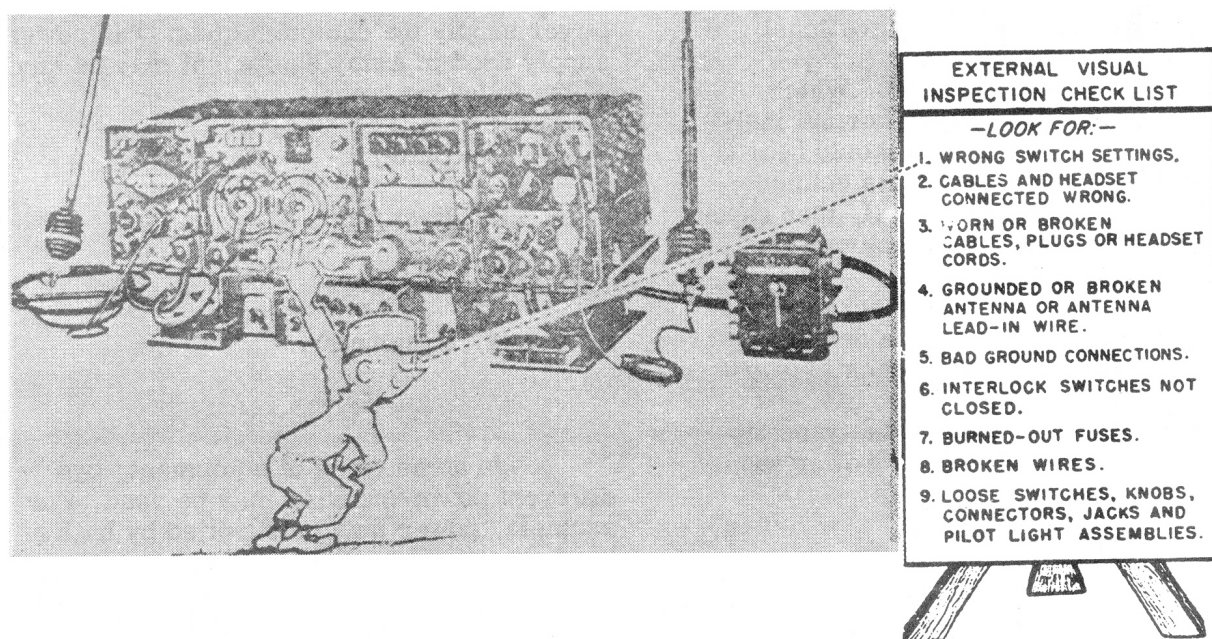

Figure 5. Give the complete set a thorough visual inspection.
b. A list of the important things to check is given in figure 5.